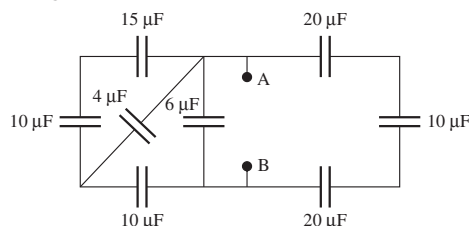

FIGURE P4.31 Capacitor network.
4.31 (H) Find the equivalent capacitance between points A and B in Figure P4.31.